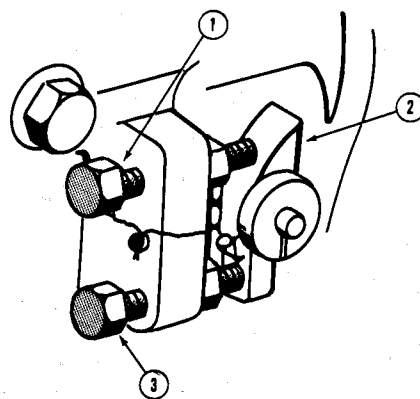

Fig. 112—Pump speed adjustments for Models TW-10, TW-20 and TW-30.
130. Idle speed must be adjusted with engine at normal operating temperature. High idle speed for Models 9000, 9600, 9700, TW-20 and TW-30 is 2420-2470 rpm. High idle speed for all other models is 2530-2580 rpm. Low idle speed for all models is 700-800 rpm. To adjust low idle speed on all models, readjust stop screw on fuel injection pump, (4—Fig. 90 or 3—Fig. 112).
To adjust high idle speed on Models TW-10, TW-20 and TW-30, disconnect throttle linkage and turn maximum no load stop screw (1—Fig. 112), until specified idle speed is obtained. To adjust high idle on other models, disconnect throttle rod (POINT "A"—Fig. 111), loosen jam nut (6) and shorten rod to increase speed or lengthen rod to decrease speed. Push hand throttle lever forward against stop and check high idle speed. If not within recommended speed range, loosen rear clip (1) and while holding foot pedal depressed against platform and hand throttle forward against stop, tighten clip. Measure distance between front clip (2) and rear clip; if not within 4.44 to 4.70 inches, loosen front clip, reposition so that distance measures 4½ inches and tighten clip. Recheck high idle speed for both foot throttle and hand throttle operations and readjust if necessary.